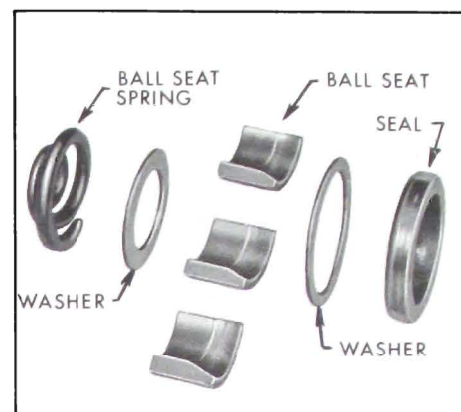

Figure 6-105—Ball Seat Assembly
2. Install spring, small end first. Install seat washer, ball stud seats, and seal washer. See Figure 6-105.